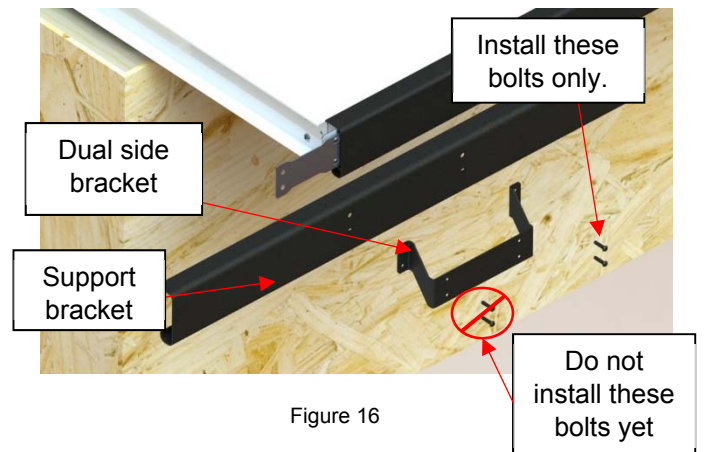

Figure 16
**Note:** For some spa, optional dual side brackets are needed to mount the cover to the posts. The installation of these brackets is made the same way as for the post-mount brackets described at step 13 (Figure 16).